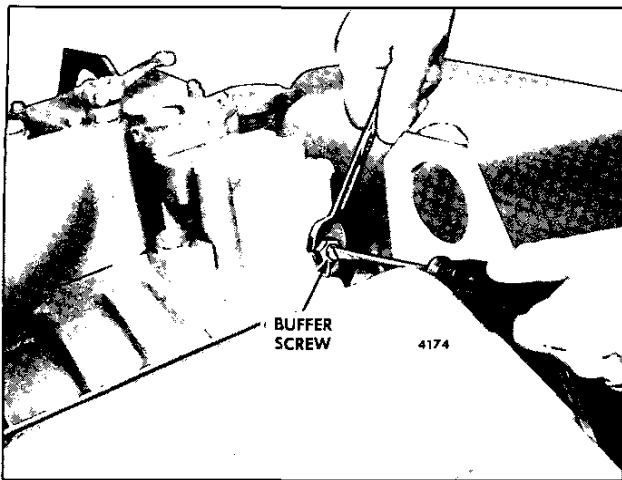

Fig. 15 – Adjusting Buffer Screw
1. With the engine running at normal operating temperature, turn the buffer screw in (Fig. 15) so that it contacts the differential lever as lightly as possible and still eliminates engine roll. *Do not raise the engine idle speed more than 15 rpm with the buffer screw.*